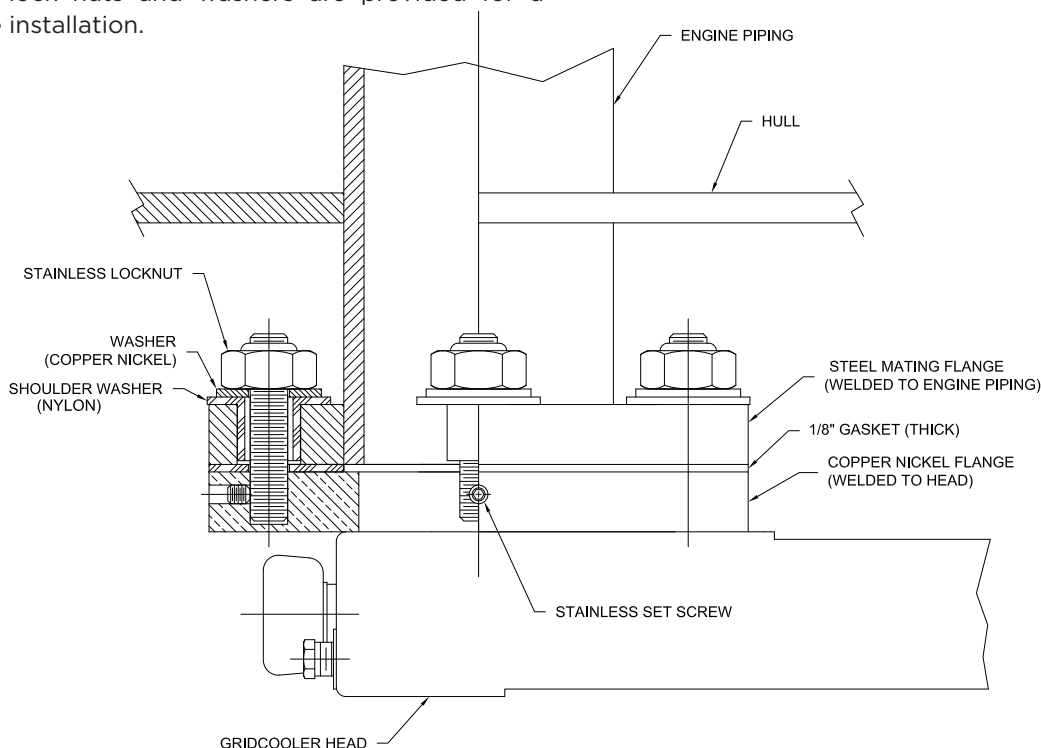

FIG.17 Z OPTION mounting detail
3.2.2 The unit is also supplied with mating ASTM steel flanges and flange mounting hardware. The supplied hardware illustrated in Figure 17 includes nylon shoulder washers combined with neoprene gaskets to allow isolation from the vessel's hull. Special extra heavy lock nuts and washers are provided for a secure installation.